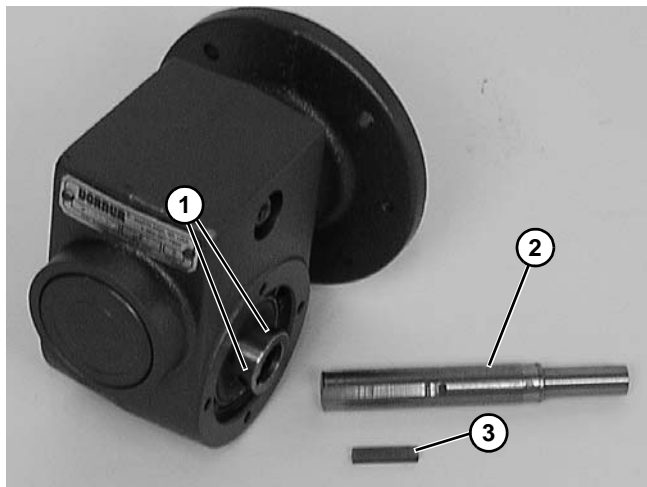

Figure 38
8. Loosen six (6) set screws (**Figure 38, item 1**). Remove drive shaft (**Figure 38, item 2**) and key (**Figure 38, item 3**).
10. Replace the original shaft components into new gear reducer (**Figure 38**).